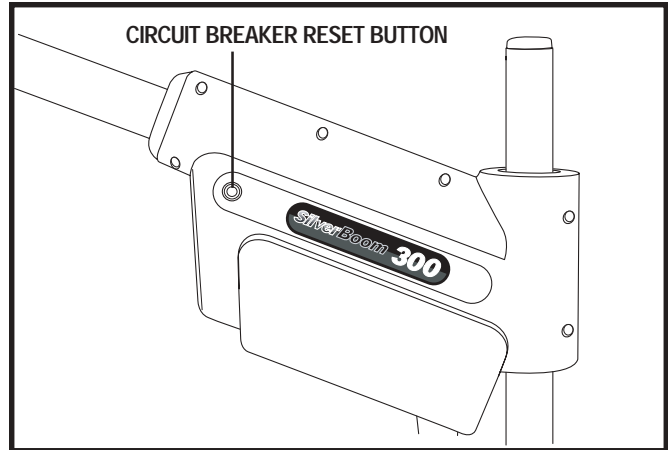

Figure 18. Circuit Breaker Reset Button
- Check the circuit breaker reset button. Reset if necessary. **See figure 18.**
If your SilverBoom 300 is heavily strained because of excessive loads, the main circuit breaker (**see figure 18**) may trip to protect the motor and electronics from damage. When the breaker trips, the entire electrical system shuts down.